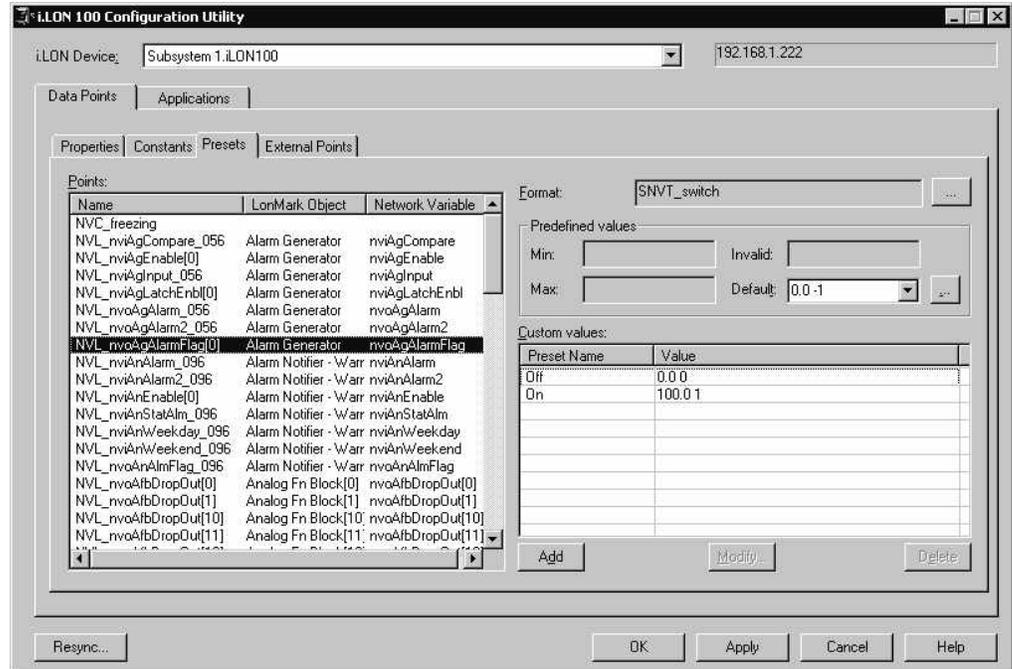

Figure 4.11 Data Point Presets
15. Select the data point associated with the **nvoAnAlarmFlag** network variable and define two presets, **On** and **Off**. Set **On** to a value of **100.0 1** and **Off** to a value of **0.0 0**, as shown in Figure 4.11.